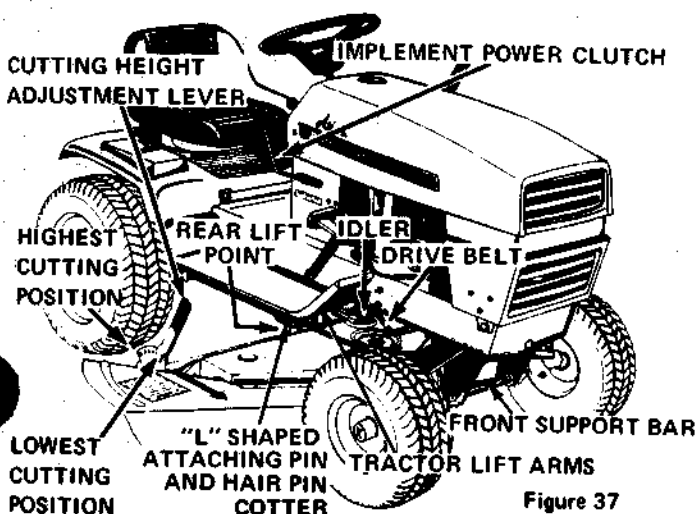

Figure 37
1. Move cutting height adjustment lever, Figure 37, to one of the six positions available to obtain the desired height of cut.
second lowest cutting position, see Figure 37.
5. Place the drive belt over the rear lift point and lower the attachment lift lever. Align ball joint of rear lift point to tractor lift arms and secure with the "L" shape attaching pin and hairpin cotter provided, Figure 37.
6. Position drive belt over the drive and driven sheaves and place idler to the inside of the belt as shown in Figure 37.
3. Place cutting height adjustment lever, Figure 37, in the highest cutting position.
The cutting height is adjustable to any of six different positions by moving the cutting height adjustment lever shown in Figure 37. Raise the lever to decrease cutting height. Lower the lever to increase cutting height.